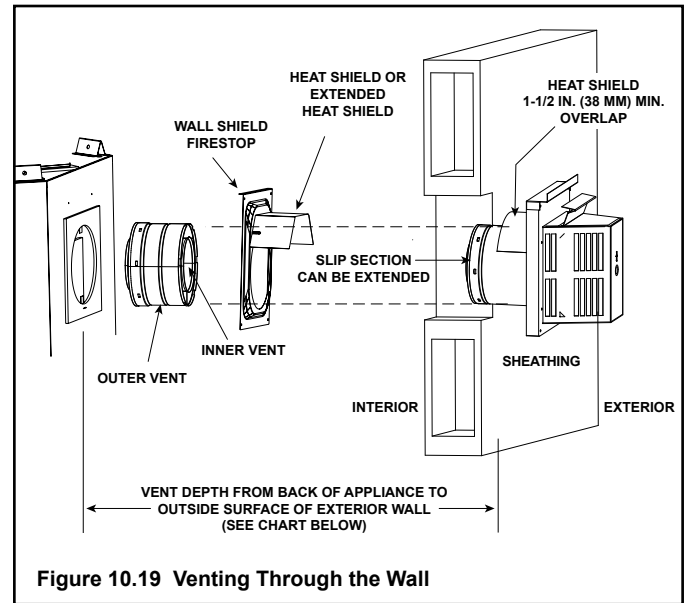

Figure 10.19 Venting Through the Wall
- **DO NOT** remove the heat shields attached to the wall shield firestop and the horizontal termination cap (shown in Figure 10.19).
There are two sections of the heat shield. One section is factory-attached to the wall shield firestop. The other section is factory-attached to the cap. See Figure 10.19.